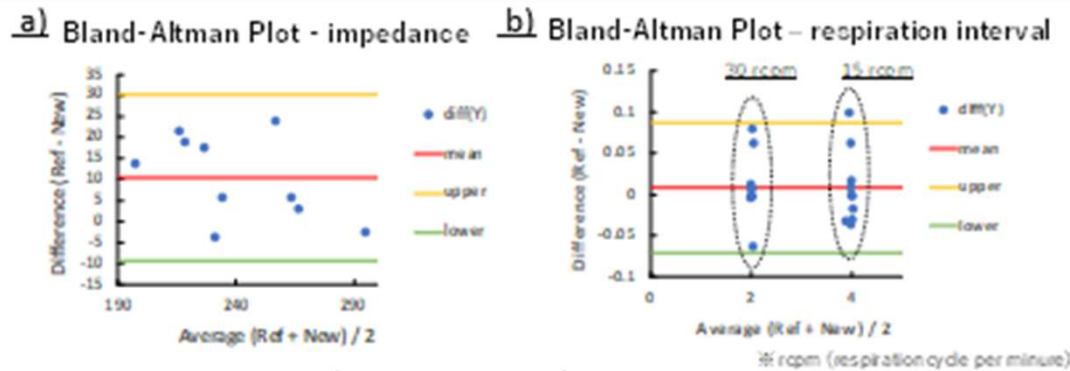

Fig.5 Bland-Altman Plot: a) Impedance and b) Respiration interval
- The Impedance of both device also approximately coincide. -Fig.5 a)
- The mean of absolute respiratory interval errors between both measurements were 0.01 seconds of two tests. -Fig.5 b)